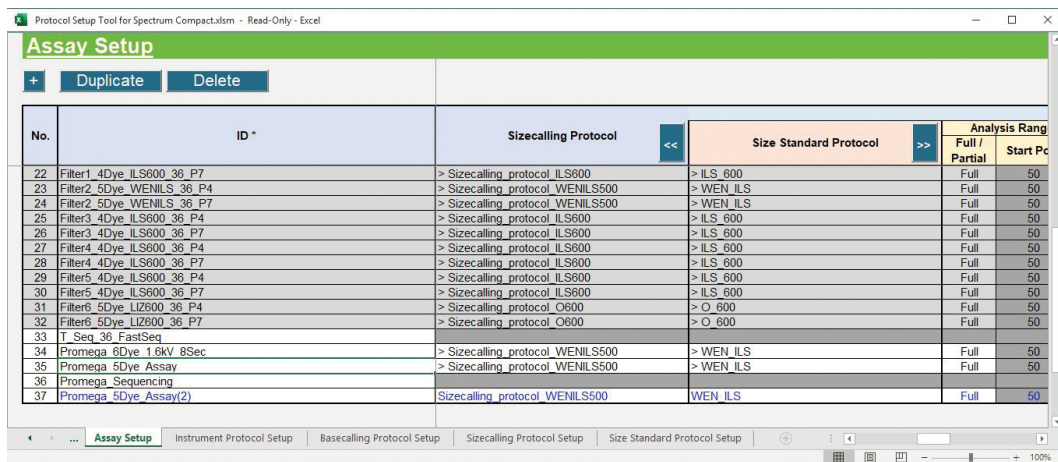

Figure 239. 'Assay Setup' worksheet with Double Arrow button for Size Standard Protocol.
- Selecting **Right Double Arrow** in the Sizecalling Protocol column header also enables **Right Double Arrow** in the Size Standard Protocol column header (Figure 239).